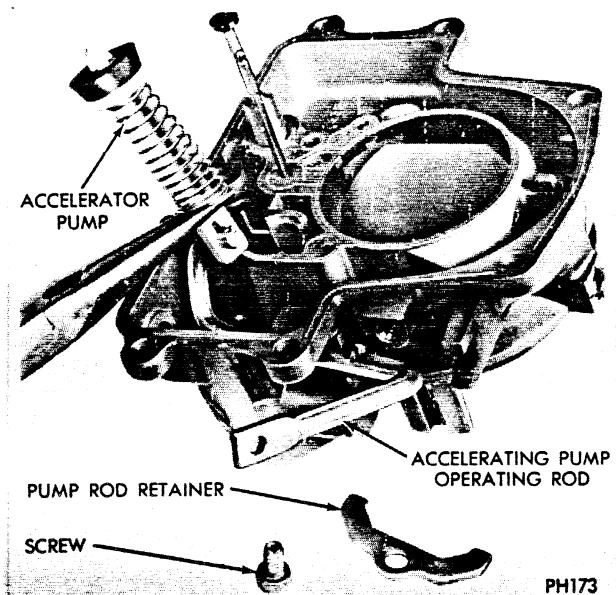

FIG. 20 Remove or Install Accelerator Pump Assembly
5. Rotate the pump operating rod and disconnect the pump drive spring and accelerating pump assembly (Figure 20). Set the pump assembly aside. Do not immerse in cleaner. A new pump cup is in the kit.